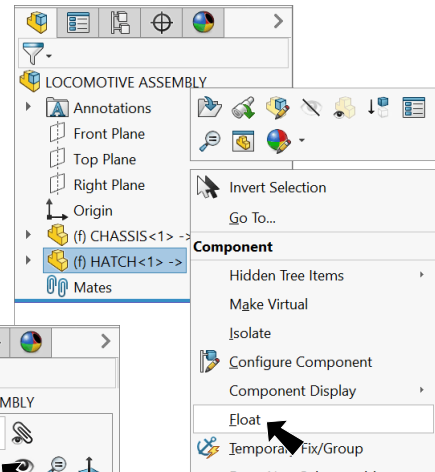

Fig. 1
Step 3. **Right click Hatch**  in the Feature Manager and click **Float** on the context toolbar, **Fig. 1**.